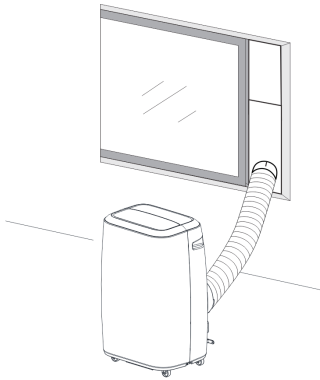
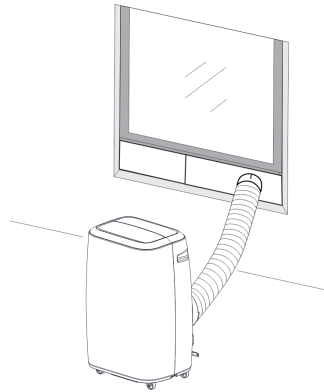

Fig. 5
Fig. 5a
2. As shown in Fig. 5 and Fig. 5a, install the exhaust hose, and adjust the window position well.